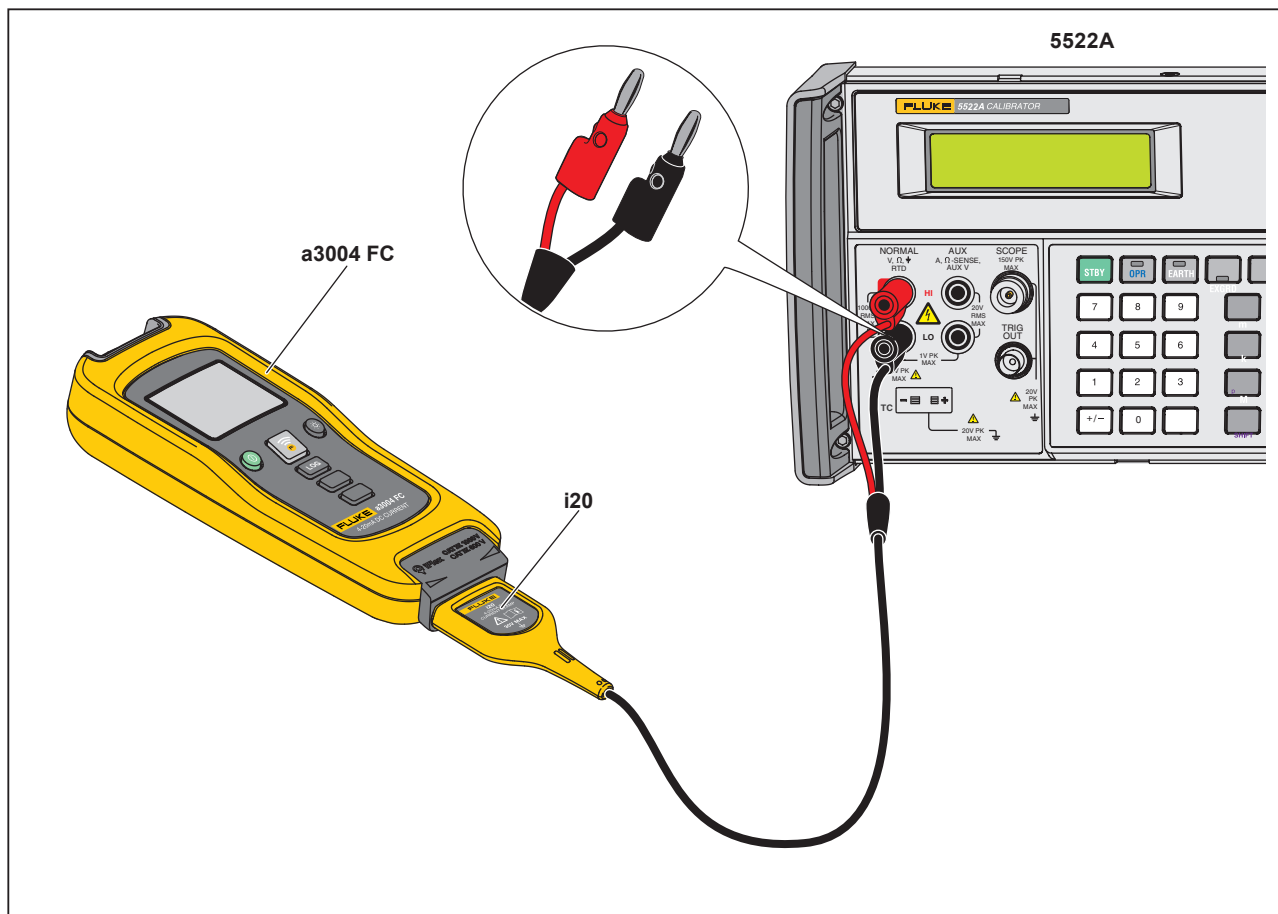

Figure 5. Performance Verification Connections for Simulated Voltages
2. Connect the Calibrator to test leads and three of the six leads in the cable, as shown in Figure 5. (The white lead connects to the NORMAL Hi terminal of the 5522A. The yellow and black leads connect to the NORMAL LO terminals.)